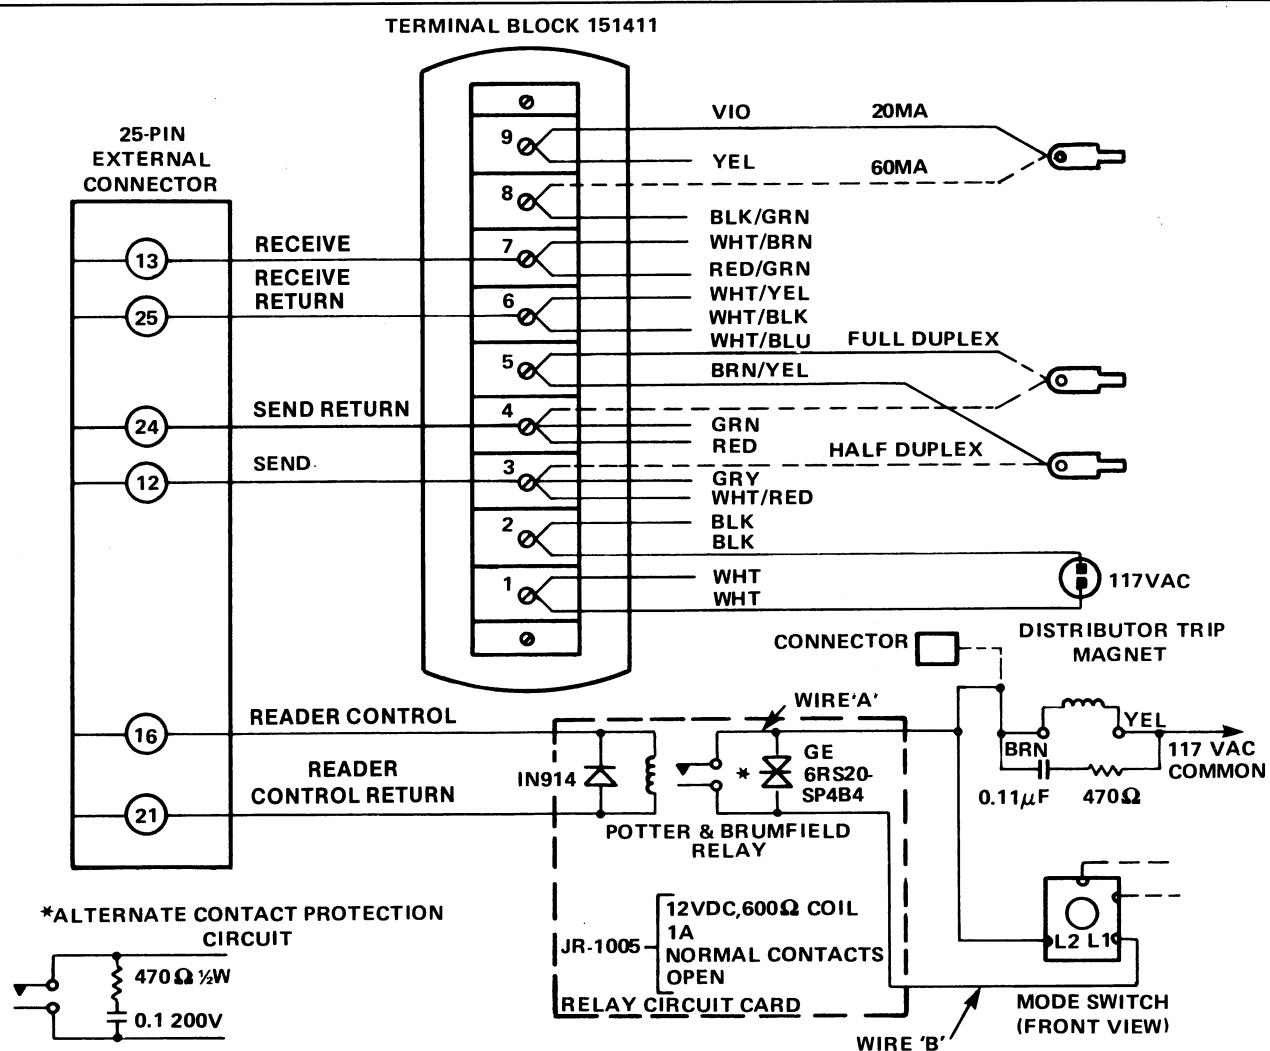
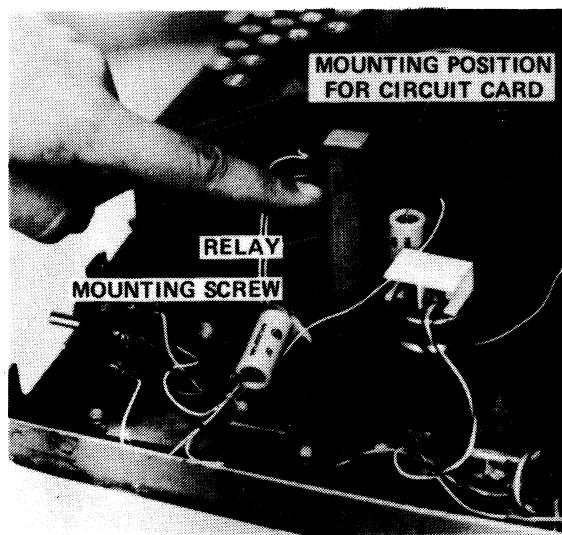
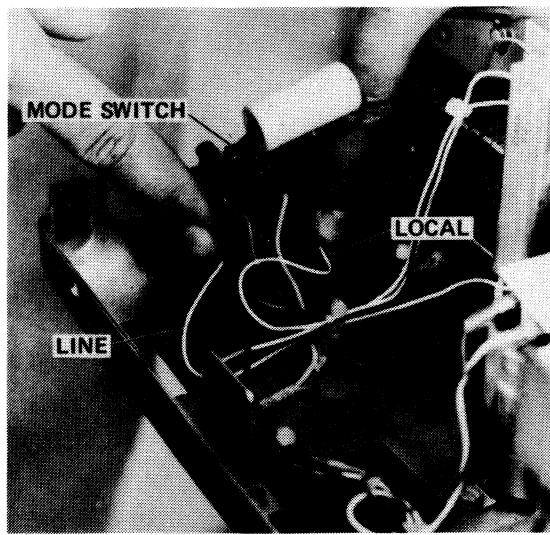

Figure A-4. Teletypewriter Modifications
Figure A-5. Relay Circuit
Figure A-6. Mode Switch
A circuit diagram of the relay circuit card is included in figure A-4; this diagram also includes the part numbers of the relay, diode, and thyrauctor. (Note that a 470-ohm resistor and a 0.1 μ F capacitor may be substituted for the thyrauctor.) After the relay circuit card has been assembled, mount it in position as shown in figure A-5. Secure the card to the base plate using two self-tapping screws. Connect the relay circuit to the distributor trip magnet and mode switch as follows:
- a. Refer to figure A-4 and connect a wire (Wire 'A') from relay circuit card to terminal L2 on mode switch. (See figure A-6.)
- c. Refer to figure A-4 and connect a wire (Wire 'B') from relay circuit board to terminal L1 on mode switch.
Connect a two-wire receive loop, a two-wire send loop, and a two-wire tape reader control loop to the external device as shown in figure A-4. The external connector pin numbers shown in figure A-4 are for interface with an RS232C type, 25-pin connector.